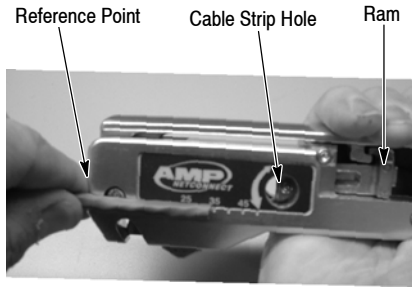

Figure 3
3. Place the cable next to the scale on the side of the tool. Stop the end of the cable at the mark below the desired strip length (indicated in mm). Refer to Figure 3.